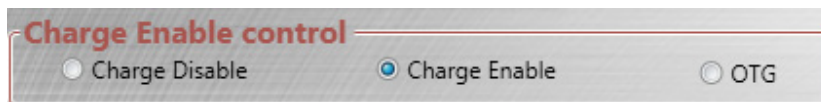

**Figure 3: The MP2723 Evaluation Software**
1. Turn on the computer, and launch the MP2723 evaluation software. The software’s main window should appear (see Figure 3).
1. Ensure that the all components are connected before running the program, and the status in the lower-left side of the GUI is indicated in green (see Figure 3).